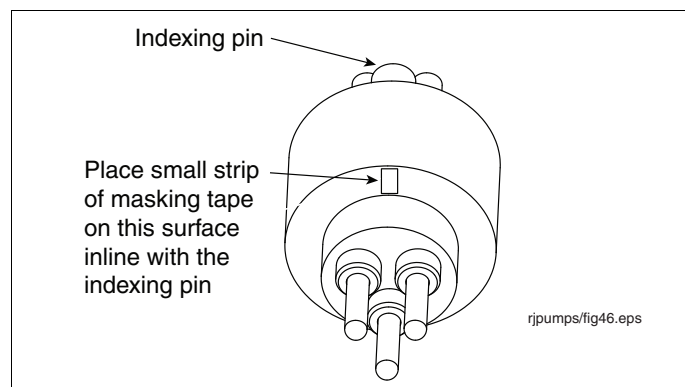

Figure 33. Placing Masking Tape Alignment Marker On Front Of Male Connector
12. Place a small piece of masking tape on the pins side of the connector in line with the indexing pin (see Figure 33).